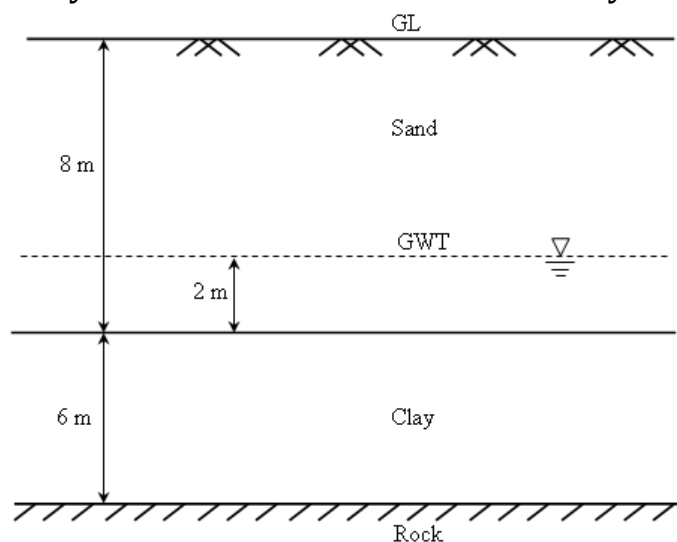

Fig.3
- (b) At a site (Figure 3) the subsoil consists of a 8 m thick layer of dry sand ( $G = 2.65$ ,  $e = 0.85$ ,  $D_{10} = 0.14$  mm) which is underlain by a 6 m thick clay layer ( $G = 2.75$ ,  $w = 22\%$ ) below which there exists a thick layer of rock. The water table is located at a depth of 6 m below the ground level. Neglecting the effect of porosity, determine effective pressures at the ground level, at ground water table level, at the level of capillary rise and at the bottom of sand layer. [Assume  $C = 0.5$  cm2]